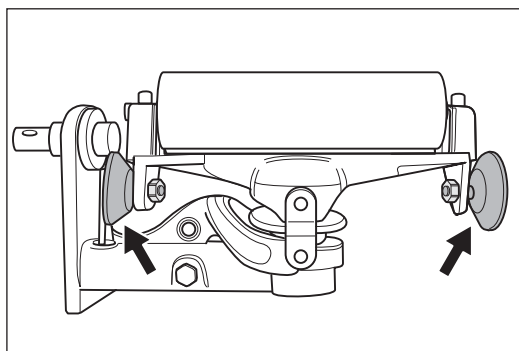

Fig. 72 The two guide rollers at the drive unit **must be rotatable easily!** Otherwise they **must be replaced (RISK OF FIRE)!**
- The two guide rollers at the drive unit must be rotatable easily (fig. 72)!